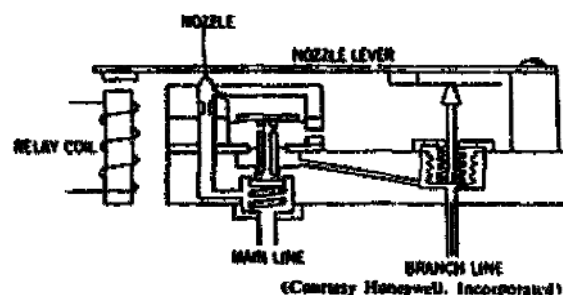

Figure 136. Pneumatic valve unit.
19. The output of the electronic amplifier controls the current through the magnetic coil. Look at figure 136 for the magnetic coil. As the voltage changes, the nozzle lever modulates over the nozzle. When the lever moves toward the nozzle, the branch line pressure will increase. The new branch line pressure, through the feedback bellows, opposes further movement of the nozzle lever. The forces which act upon the lever are now in balance. When the voltage decreases, the lever will move away from the nozzle. This movement will cause the branch line pressure to decrease until the forces are again in balance.